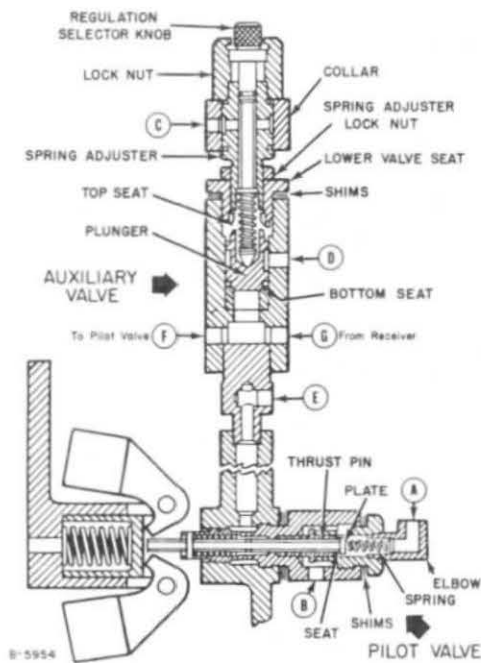

Figure 5-3. Pilot & Auxiliary Valve Adjustment.
1. Stop the compressor, bleed off the pressure from the system, and remove the tube that is connected to (A), Figure 5-3. Remove the elbow, spring and plate.
3. To further check the adjustment of the valve, plug the opening in the auxiliary valve support at (F). Start the compressor. Now check the position of the thrust pin. The end of the thrust pin must be behind